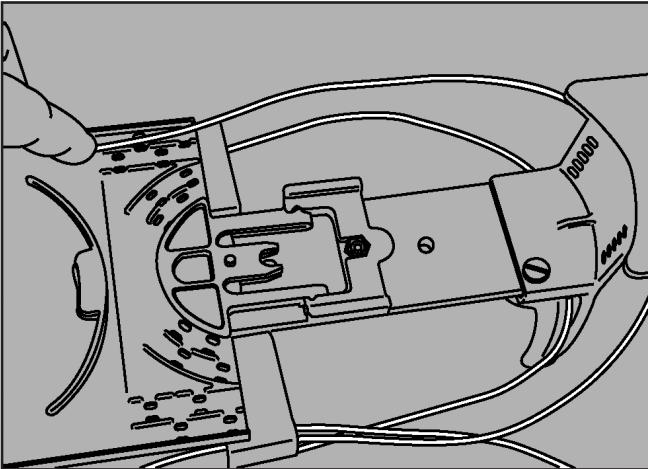

Figure 4
4. Organize the loose buffer tube without stress or undue bending to enter the SLIDE-N-LOCK splice tray. (Figure 4)